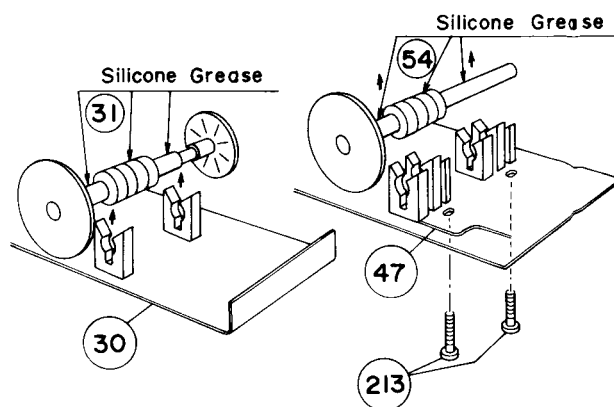

Figure 12
- (1) Worm gears have been press-insert mounted. When worm gears are lifted, make sure to apply an equal force to each connecting parts as shown in Figure 12.
- (2) To lift the Worm Gear " 54 " remove two screws " 213 " as shown in Figure 12.